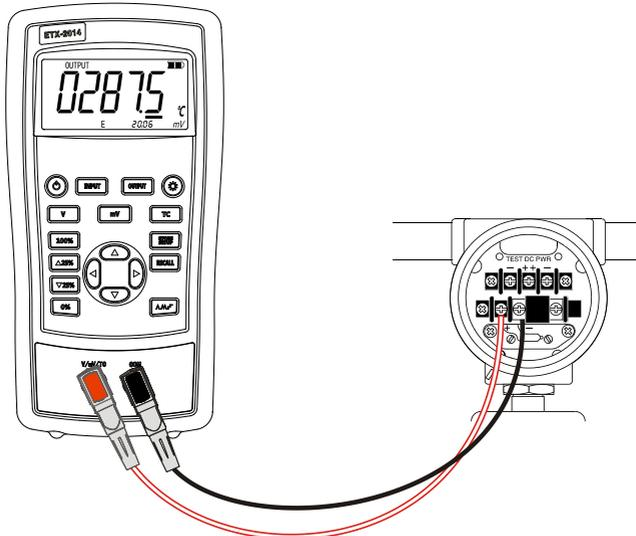

Figure 5-1
1. Connect thermocouple to the TC input/output plughole of calibrator as shown in Figure 5-1.